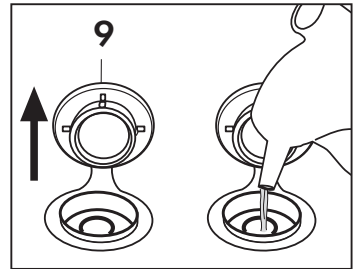

Fig. 6
Open the water fill cap (9) by hand; turn the bottle upside down with the top over the tank hole and empty the contents of the bottle into the tank. When the tank is full, close the cap (9) (Fig. 6)